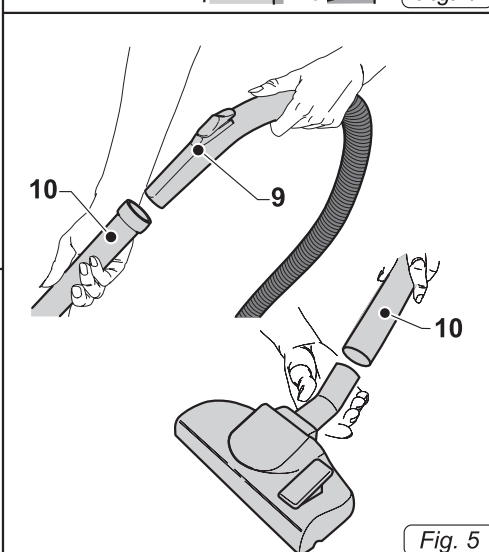

Fig. 5
- Attach the hose extension (10 Fig. 5) to the ergonomic handle (9 Fig. 5).
- Attach the required accessory (suction tool, dusting brush, crevice tool, multi-purpose brush etc.) to the extension (10 Fig. 5).